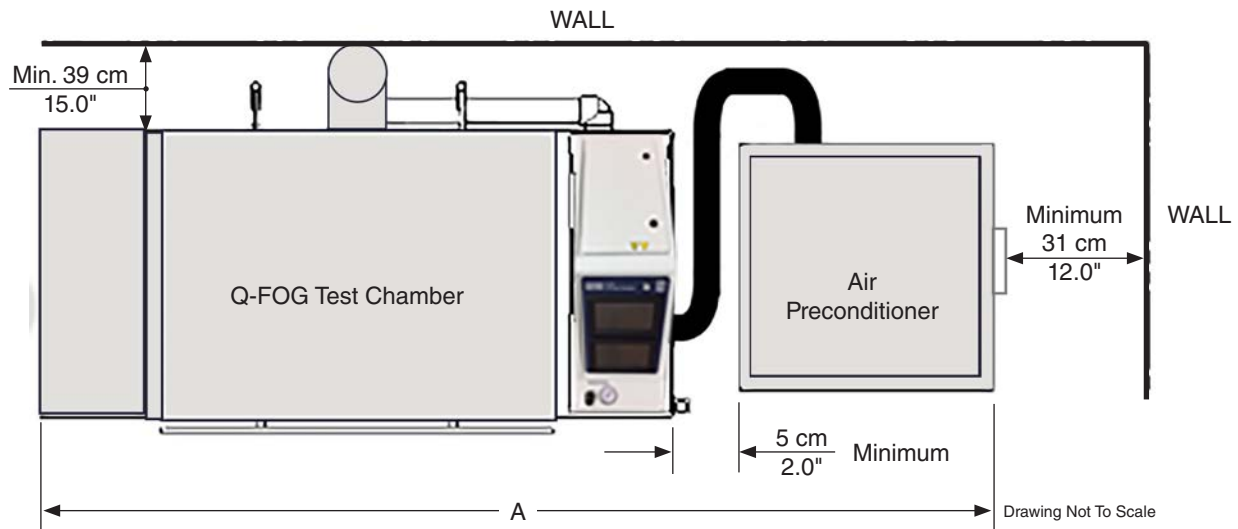

Figure 6.1c: Q-FOG CRH space requirements.
- Installation location space requirements are shown in Figure 6.1c.
- The Q-FOG CRH test chamber and Air Preconditioner should be positioned as shown in Figure 6.1c below to allow sufficient room to operate the unit and for proper ventilation.